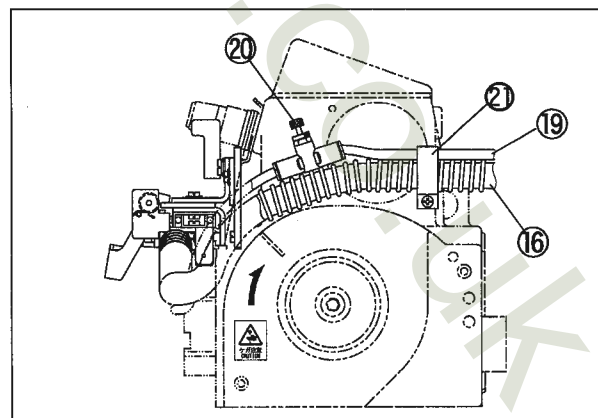

Fig. 8
- (9) Bind the air pipe ⑲ and the suction hose ⑯ by the cord clamp ⑳ and attach them to side of machine frame. (Fig. 8)